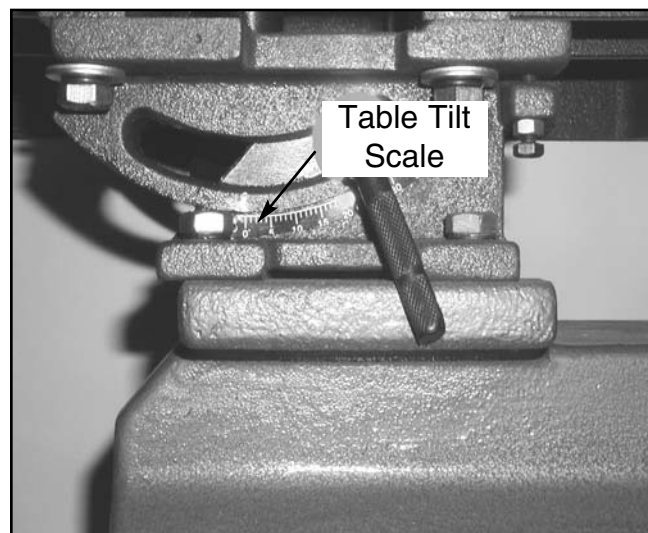

Figure 16. Table tilt adjustment scale and handle.
1. Loosen the table lock handles as shown in **Figure 16**.